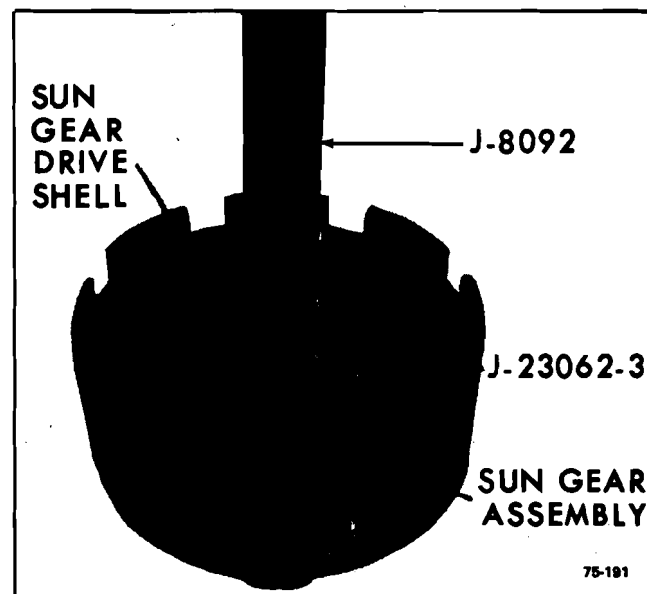

Fig. 7G-87 Installing Sun Gear Bushings
- a. Using Bushing Tool J 23062-3, Extension J 21465-13 and Drive Handle J-8092 and with sun gear properly supported, drive out bushings (2).
- b. Using Bushing Tool J 23062-3 and Drive Handle J 8092, install each new bushing flush to .010" below surface of each counterbore (Fig. 7G-87).